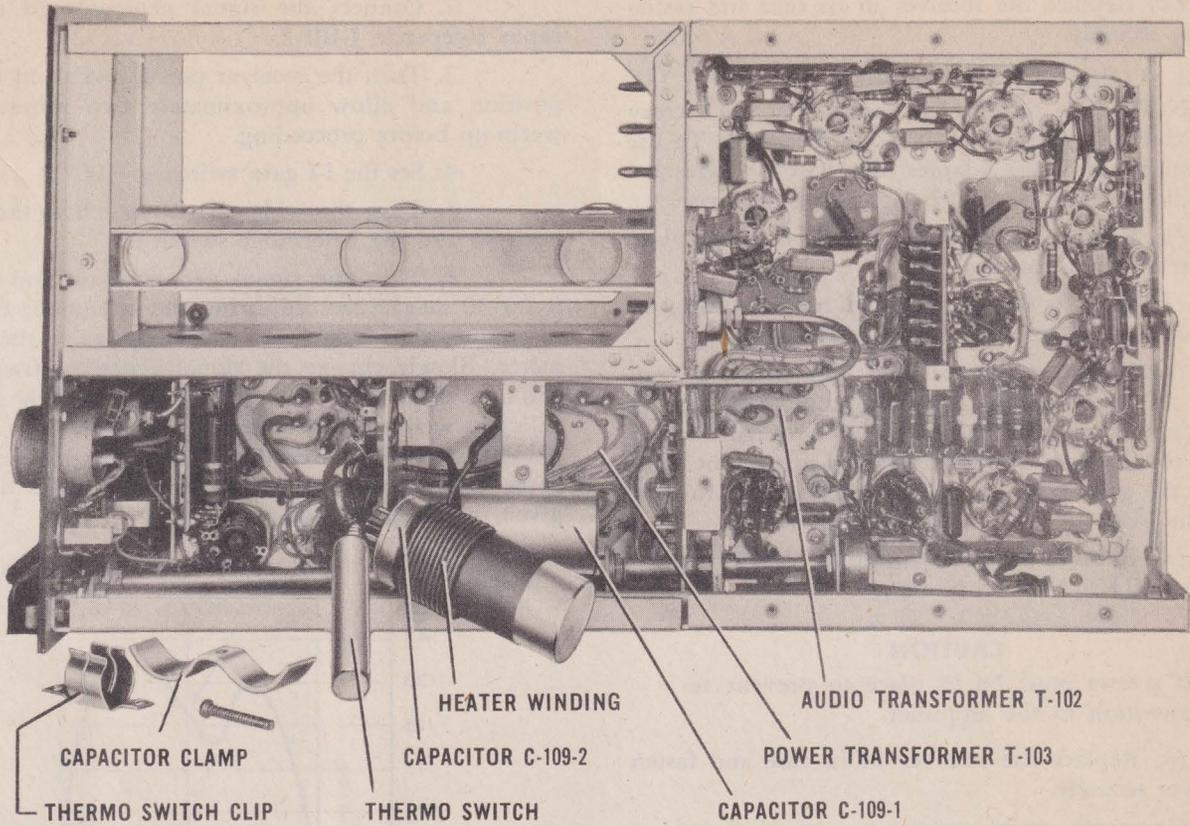

Figure 2-3. Radar Receiver R-54/APR-4—Transformer Locations
(3) SELECTION OF PROPER POWER SUPPLY VOLTAGE TAP ON RADAR RECEIVER R-54/APR-4.—All receivers are connected at the factory for 115 volts, 60 to 2,600 cycle-operation. If 80-volt operation is required change the tap on the power transformer T-103 (fig. 2-3) as follows:
(b) Remove the thermo-switch from its clip (figs. 2-3 and 2-4).
(d) Remove capacitor C-109-2 from its mounting socket. Use caution to prevent damage to the heater. Swing capacitor C-109-2 and heater to one side (fig. 2-3).
(b) Replace the hold-down clamp and the thermo-switch clip. (See figs. 2-3 and 2-4.)
(4) SELECTION OF PROPER HEADSET IMPEDANCE.—The receiver is connected at the factory for proper operation with 8000-ohm headsets. To use 600-ohm headsets, use Adapter MC-385-C or reconnect the audio transformer T-102 (fig. 2-3) as follows: